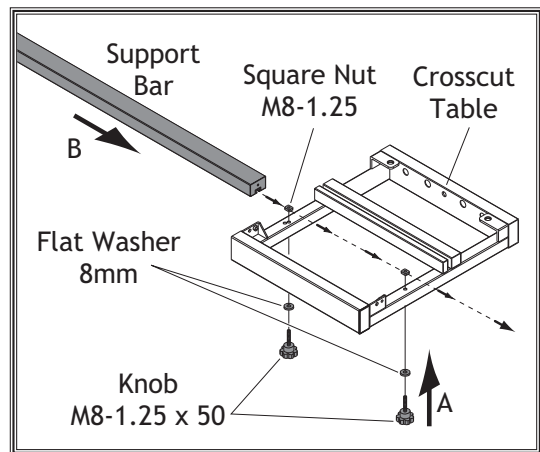

Figure 24. Installing support bar on crosscut table.
18. Insert the two crosscut brace knobs with 8mm flat washers through the crosscut table, then thread the square nuts onto the ends of the knob threads (Figure 24, A). Slide the T-slot in the support bar over both T-nuts, and tighten the knobs (Figure 24, B).